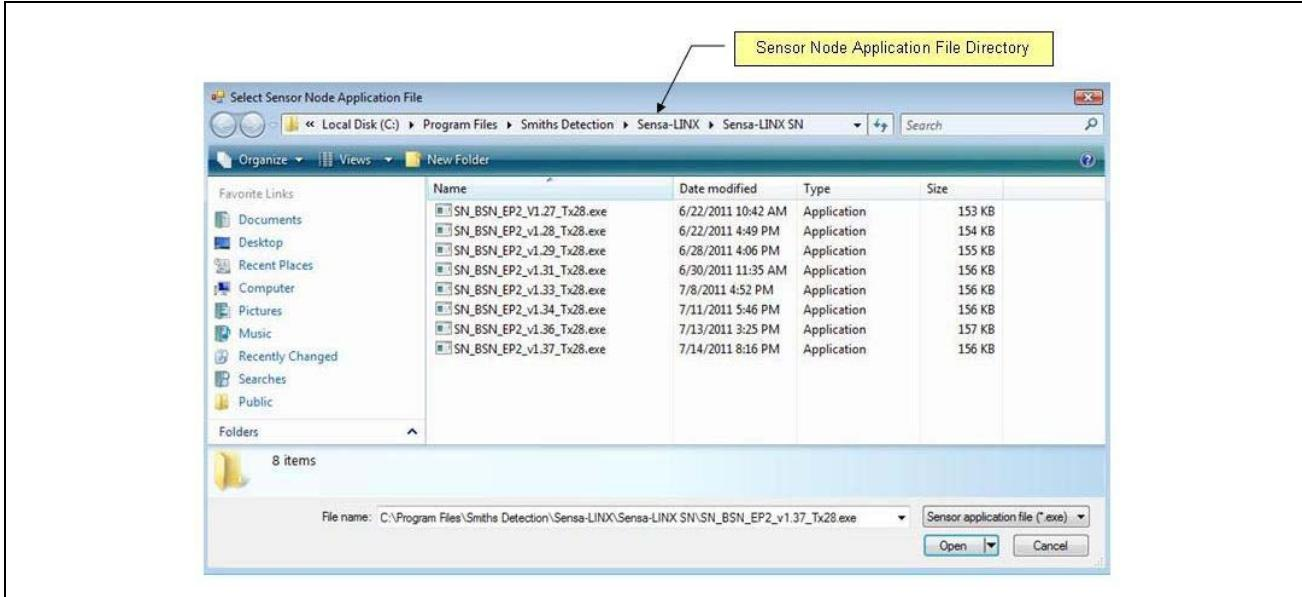
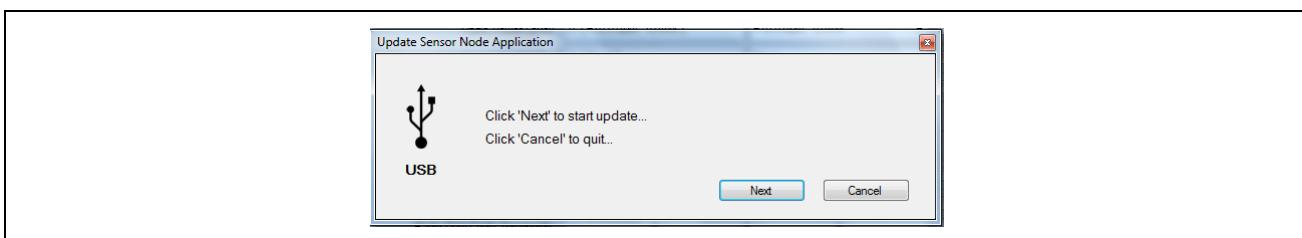

Figure 14 Select Sensor Node Application File Dialog
Figure 15 Start Update Dialog
- 11 The Select Sensor Node Application File dialog is displayed as seen in Figure 14. If the folder containing the Sensor Node Application file is not shown in the dialog then select the folder where the file was copied as described in paragraph 6.3.1.
12 In the dialog shown in Figure 14, select the sensor node application file that was copied from the CD in paragraph 6.3.1 and click the Open button. The Start Update dialog seen in Figure 15 will appear. Click the Next button to start the update.